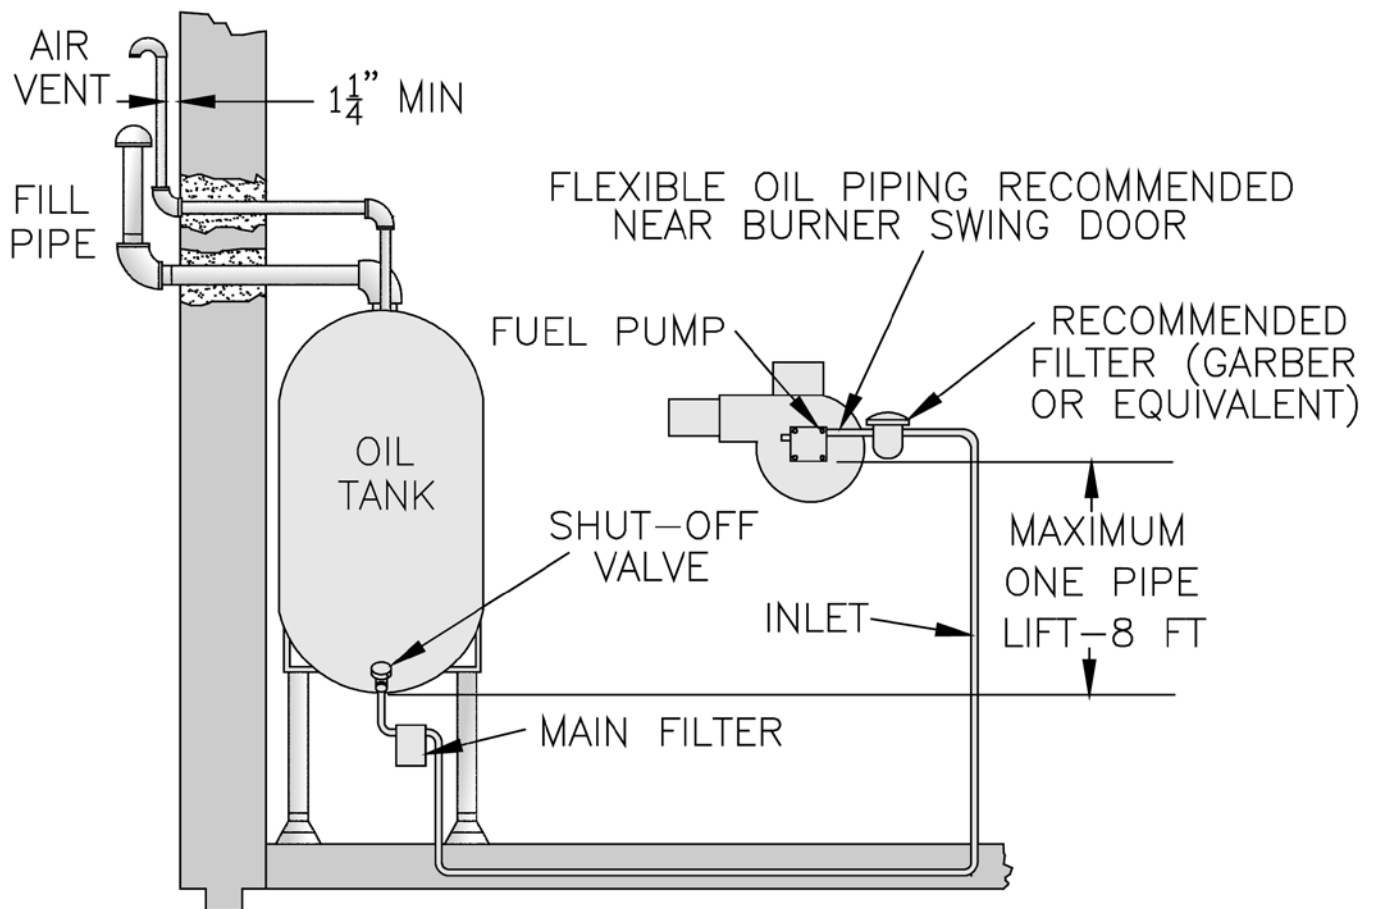

Figure 13: Single-Pipe Installation
2. The single-stage fuel unit may be installed single-pipe with gravity feed or lift. Maximum allowable lift is 8 feet. See Figure 13.